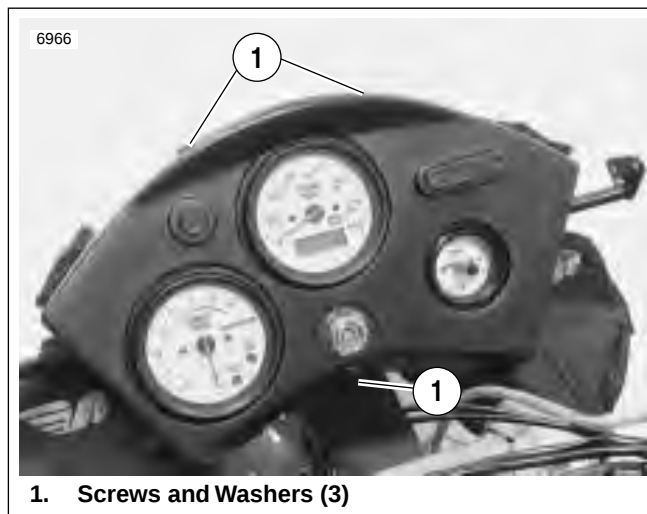
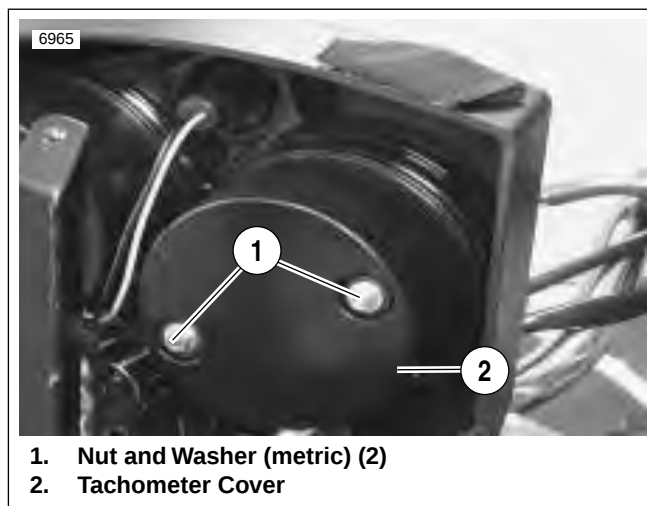

Figure 7-67. Front Dash Panel
Figure 7-68. Back Dash Panel
2. See Figure 7-67. Remove three screws and plastic washers (1) holding dash panel to front fairing bracket. Pull dash panel upward, but do not damage wiring.
3. See Figure 7-68. Remove two nuts (metric) and lock-washers (1) from tachometer cover (2).
4. Slide tachometer cover (2) away from tachometer.
4. See Figure 7-68. Install tachometer cover (5).
- c. Fasten cover (2) to tachometer using two nuts (metric) and lockwashers (1).
5. See Figure 7-67. Position dash panel on instrument support clamp.
6. Attach dash panel using three screws and washers (1). Tighten screws to 7-9 ft-lbs (10-12 Nm).